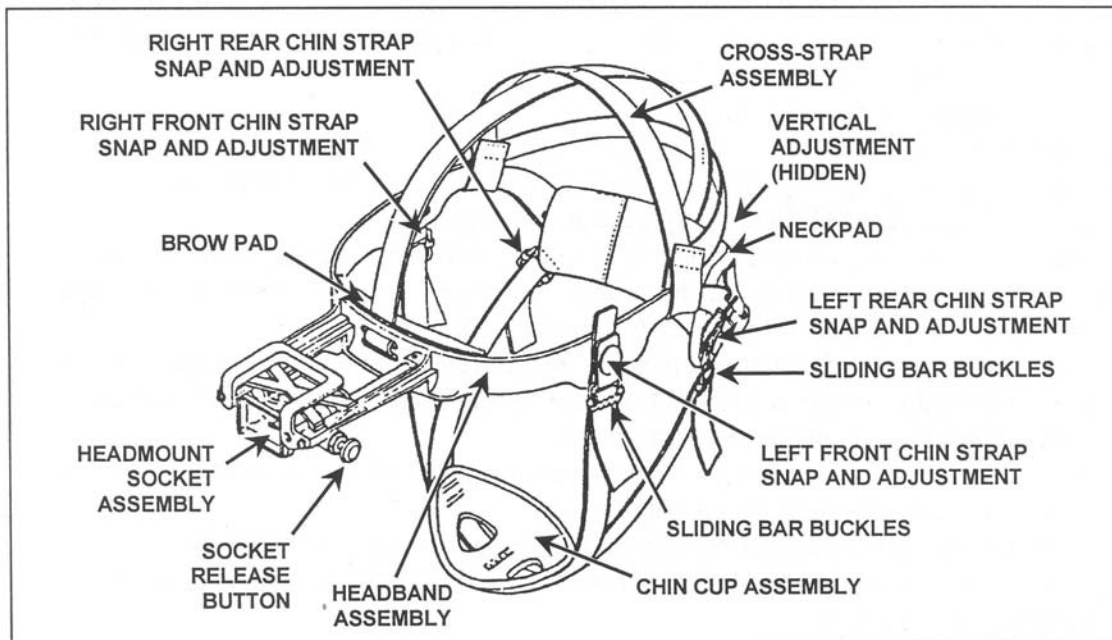

Figure 4. AN/PVS-7B headmount assembly.
- (1) Adjust the headmount assembly (Figure 4).